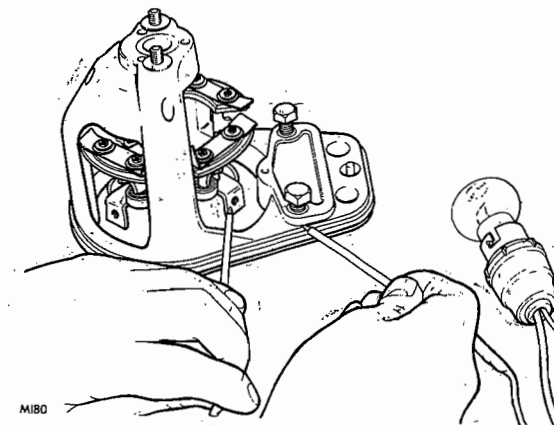

FIG. 6. CHECKING THE BRUSH GEAR (c)
- c. The negative brush holder and the frame (Fig. 6).